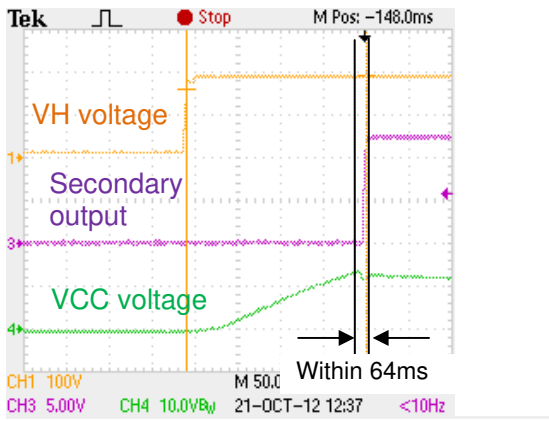
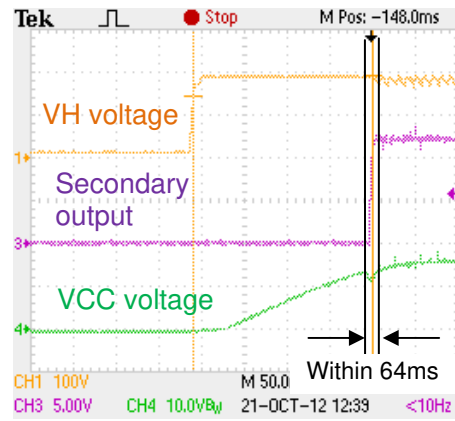

Figure 9. Waveform of No-load Startup
Figure 10. Waveform of High-load Startup
- Startup waveforms are shown as reference examples in Figure 9 and Figure 10.